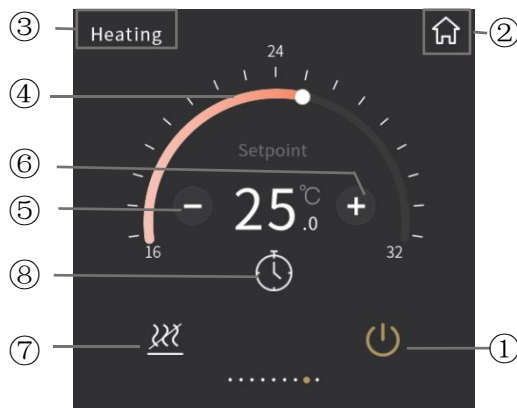
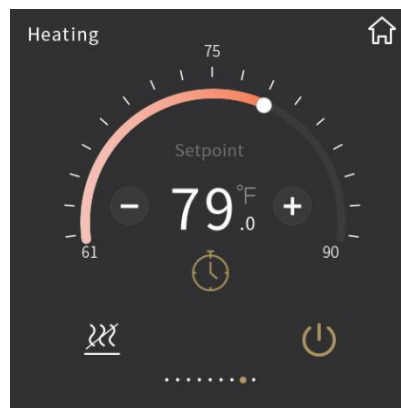

Fig.2.5.1
Fig.2.5.2
⑤ The function of this icon is to decrease the temperature;
⑥ The function of this icon is to increase the temperature;
Adjusting the temperature by sliding the ring slider④ or touching the icon⑤ and icon⑥. For each touching of icon⑤ and icon⑥, the adjustment range is 0.5 degrees. When the setting temperature unit is set to degrees Celsius(°C), as shown in Fig.2.5.1, adjustment range of the setting temperature is 16~32°C by default; when the setting temperature unit is set to Fahrenheit(°F), the current temperature value will automatically convert to Fahrenheit value, as shown in Fig.2.5.2, adjustment range of the setting temperature is 61~90°F by default. The temperature adjustment range can be modified through parameter setting.
⑧ Turn on timer function by touching this icon;
Icon⑧ on indicates timer turn on; icon⑧ off indicates timer turn off. Timer function can be enabled via the parameter configuration. When timer function is disabled, there would be no timer icon as shown as Fig.2.5.1 on the interface; when enabled, timer can be configured.